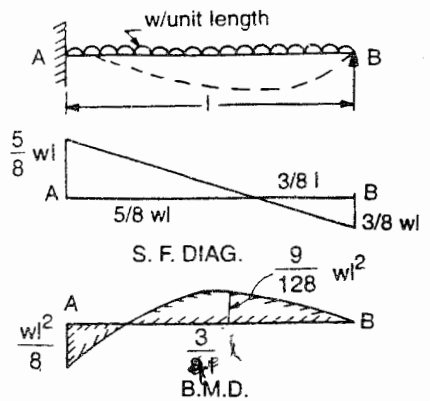

Fig. 9.5
A Cantilever AB of span l with a u. d. l w /unit length is shown in fig. 9.5 End A is fixed and B is propped. Let R be the reaction of the prop.
B. M. diagram can now be drawn as shown in fig. 9.5